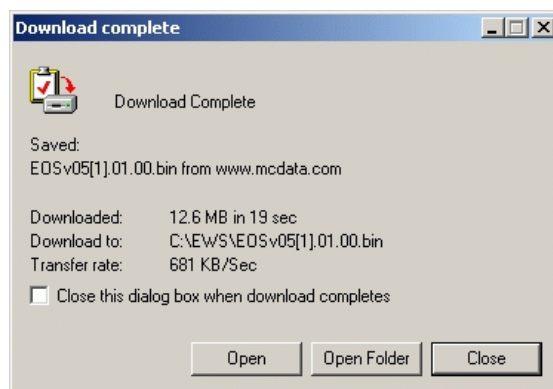

Figure 4-48 Download Complete Dialog Box
11. A *Download* dialog box displays, showing the estimated time remaining to complete the download process. When the process finishes, the dialog box changes to a *Download complete* dialog box (Figure 4-48).